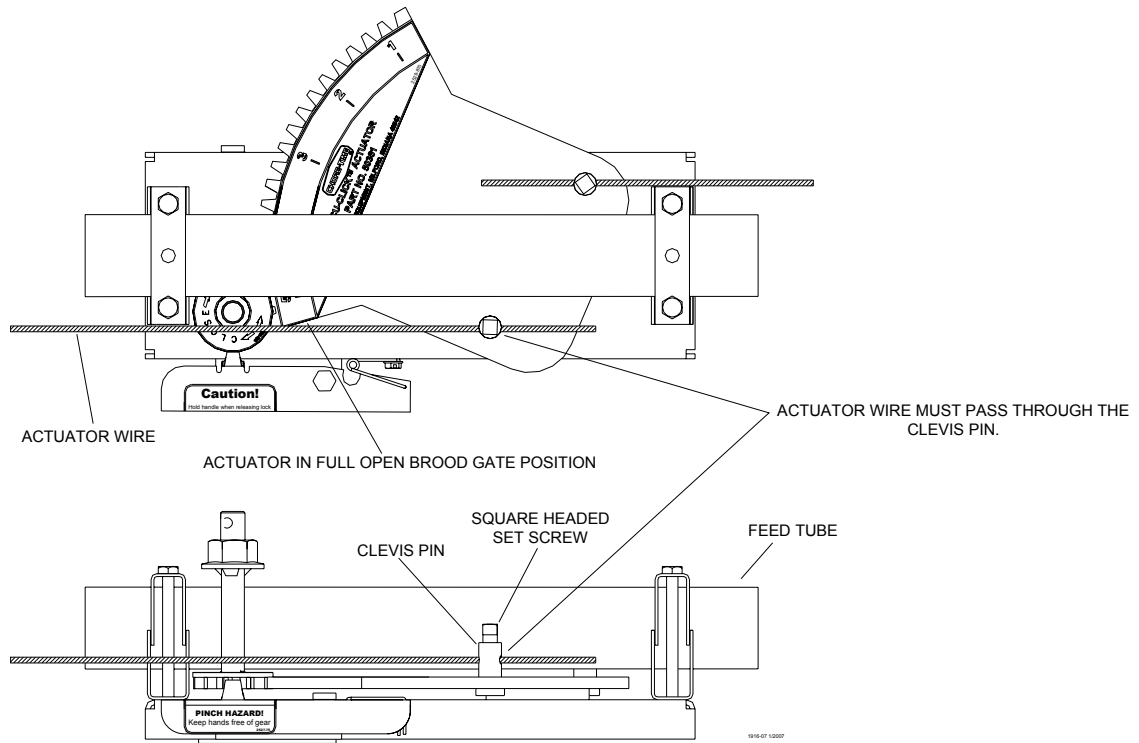

Figure 48. Actuator Wire at ACCU-CLICK™ Actuator.
- Position the actuator so the actuator is in the “Fully Open Brood Gate Position” (**see figure 48**) if it is not already in the “Fully Open Brood Gate position”.
- Tighten the set screws on the clevis pins so they clamp down on the actuator wire, **see figure 48**.